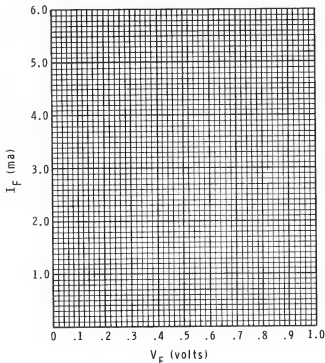

Figure 3-69
7. Now plot the corresponding values of I_F and V_F in Figure 3-68 on the graph shown in Figure 3-69. Then connect the various points plotted on the graph to form a continuous curve. This curve shows the continuous relationship between the diode's forward current and forward bias voltage. Label this curve with the appropriate letters (Ge for germanium).
12. Now repeat Steps 3 through 10 using the silicon diode instead of the germanium diode. Be sure that you fill in the proper spaces in the tables shown in Figure 3-68 and Figure 3-70 and be sure to identify the silicon diode characteristic curve that you will plot in Figure 3-69. After you complete Step 10 for the silicon diode, turn off the Experimenter, and read the following discussion.
In studying the curves you plotted in Figure 3-69 it should be apparent that the voltage across the germanium diode is less than the voltage across the silicon diode. Also, it should be apparent that the forward voltage is not a fixed value; it does vary in proportion to the forward current. However, the amount of change of the forward voltage over a wide range of current values is very small. For that reason, we can generally assume the forward voltage to be basically a constant for most applications.